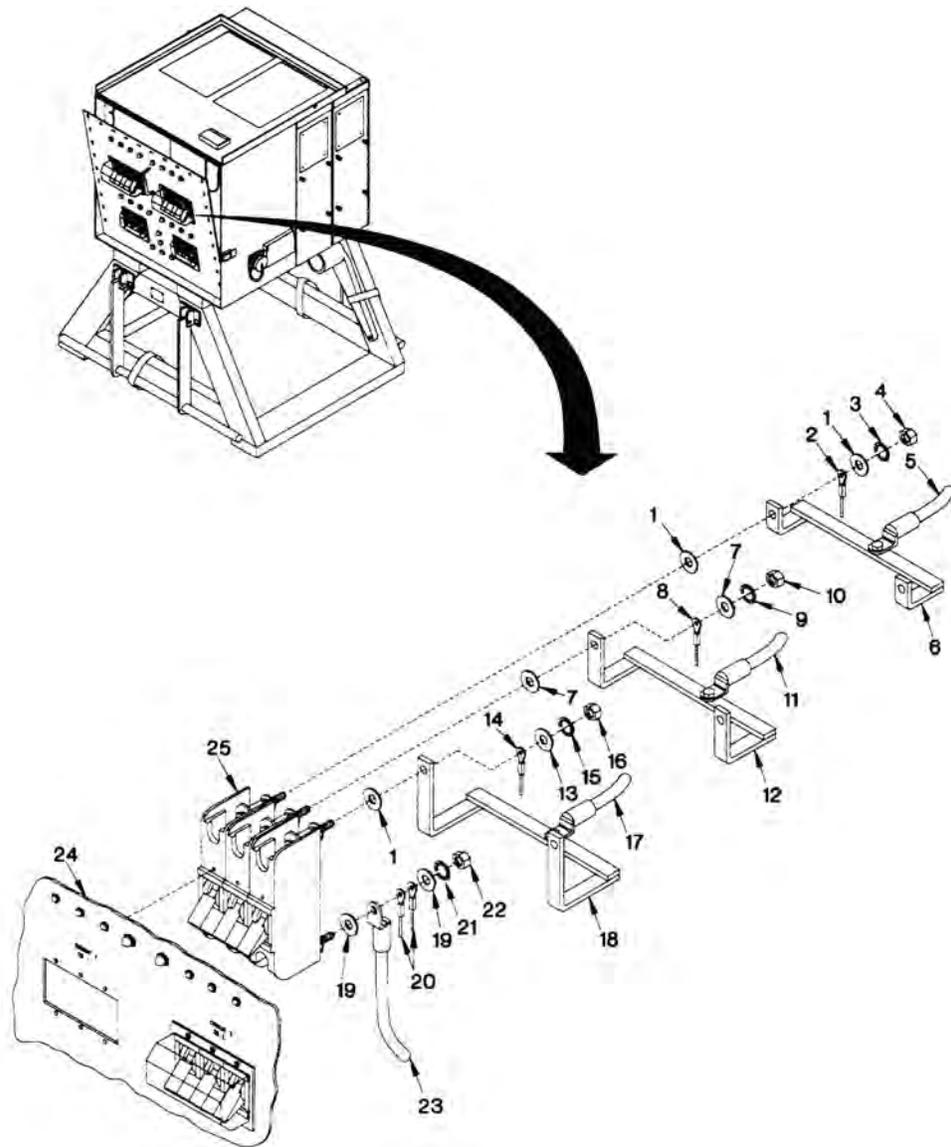

Figure 1. Circuit Breaker CB1 and CB2 (PP-8440/ASM Only).
12. Connect three wires (Figure 1, Item 23) to rear of circuit breaker (Figure 1, Item 25) by installing six flat washers (Figure 1, Item 19), three locking star washers (Figure 1, Item 21), six indicator wires (Figure 1, Item 20) and three nuts (Figure 1, Item 22). Remove all tags.
13. Connect buss bar C1 (Figure 1, Item 18) to CB1 (Figure 1, Item 25) and CB2 by installing four flat washers (Figure 1, Item 13), two nuts (Figure 1, Item 16), two indicator wires (Figure 1, Item 14) and two locking star washers (Figure 1, Item 15). Ensure wire (Figure 1, Item 17) on rear of buss bar (Figure 1, Item 18) is securely attached.
14. Connect buss bar B1 (Figure 1, Item 12) to CB1 (Figure 1, Item 25) and CB2 by installing four flat washers (Figure 1, Item 7), two nuts (Figure 1, Item 10), two indicator wires (Figure 1, Item 8) and two locking star washers (Figure 1, Item 9). Ensure wire (Figure 1, Item 11) on rear of buss bar (Figure 1, Item 12) is securely attached.
15. Connect buss bar A1 (Figure 1, Item 6) to CB1 (Figure 1, Item 25) and CB2 by installing four flat washers (Figure 1, Item 1), two nuts (Figure 1, Item 4), two indicator wires (Figure 1, Item 2) and two locking star washers (Figure 1, Item 3). Ensure wire (Figure 1, Item 5) on rear of buss bar (Figure 1, Item 6) is securely attached. Ensure all connections correspond to correct power phase. Remove all tags.
16. Perform procedures in WP 0027 to secure circuit breaker panel (Figure 1, Item 24).